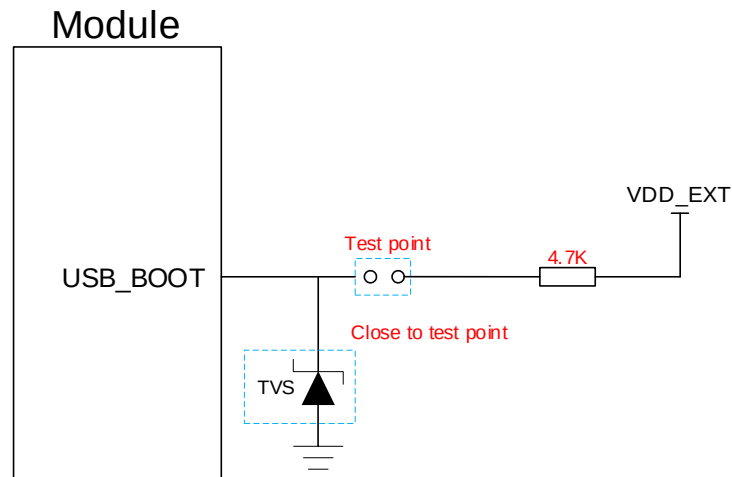

Figure 19: Reference Circuit of USB_BOOT
2. When using MCU to control the module to enter the forced download mode, follow the above timing sequence. It is not recommended to pull up USB_BOOT to 1.8 V before powering up VBAT. Directly connect the test points as shown in **Figure 19** can manually force the module into download mode.